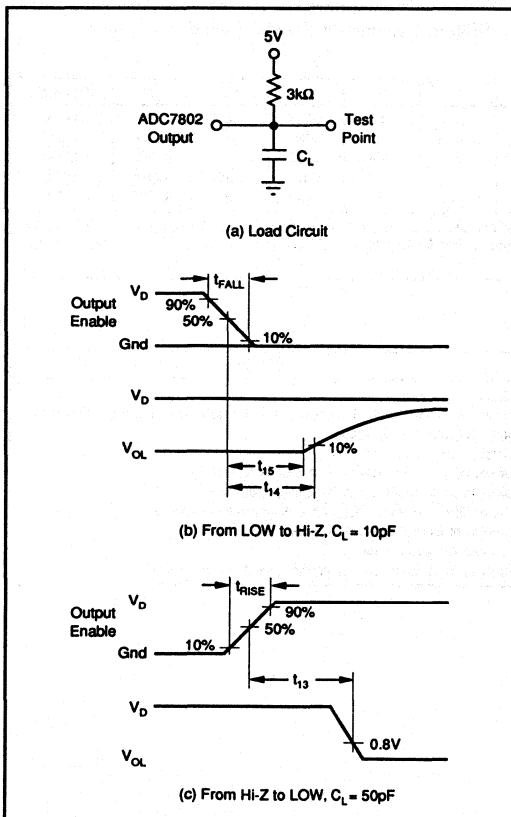

FIGURE 7. Measuring Active LOW to/from Hi-Z State.
NOTES: (1) All input control signals are specified with  $t_{\text{RISE}} = t_{\text{FALL}} = 20\text{ns}$  (10% to 90% of 5V) and timed from a voltage level of 1.6V. Data is timed from  $V_{\text{OH}}$ ,  $V_{\text{OL}}$ ,  $V_{\text{OH}}$  or  $V_{\text{OL}}$ . (2) The internal  $\overline{\text{RD}}$  pulse is performed by a NOR wiring of  $\overline{\text{CS}}$  and  $\overline{\text{RD}}$ . The internal  $\overline{\text{WR}}$  pulse is performed by a NOR wiring of  $\overline{\text{CS}}$  and  $\overline{\text{WR}}$ . (3) Figures 7 and 8 show the measurement circuits and pulse diagrams for testing transitions to and from Hi-Z states.